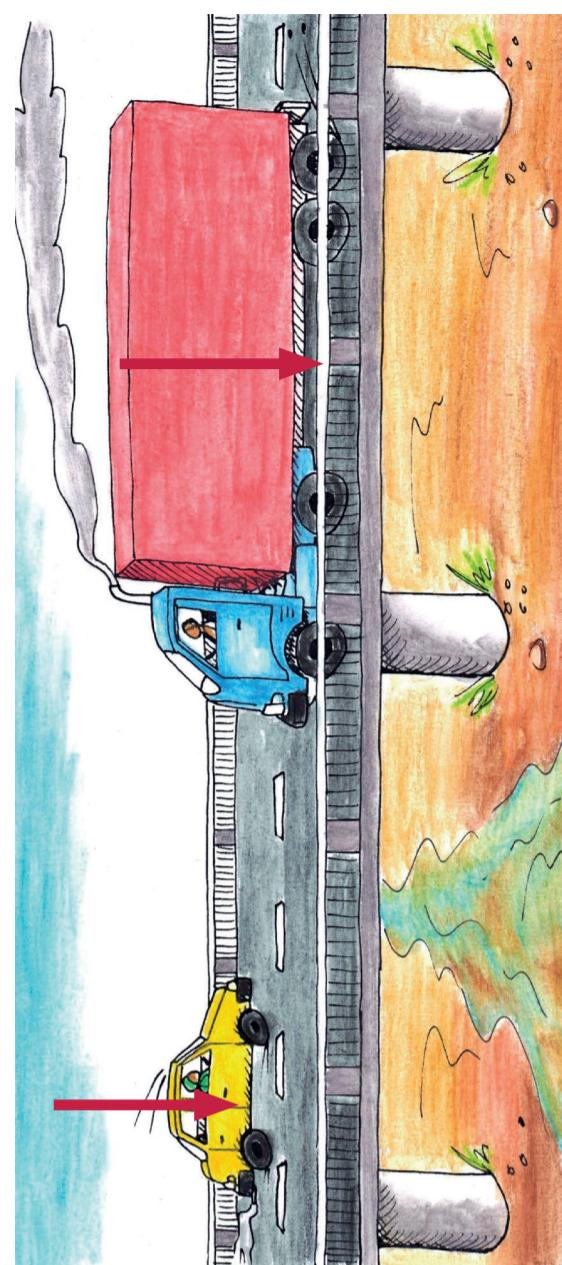

Figure 7: Vehicles passing over a bridge.
3. In Figure 7 above, the truck and the car exert forces on the bridge. Can these forces also be called static? Explain why you say so.